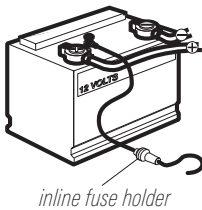

Figure 4
- 1b. If you need to wire the control head directly to a battery, obtain and install an inline fuse holder and a 1 amp fuse (not included) for the protection of the unit (Figure 4). Humminbird is not responsible for over-voltage or over-current failures.